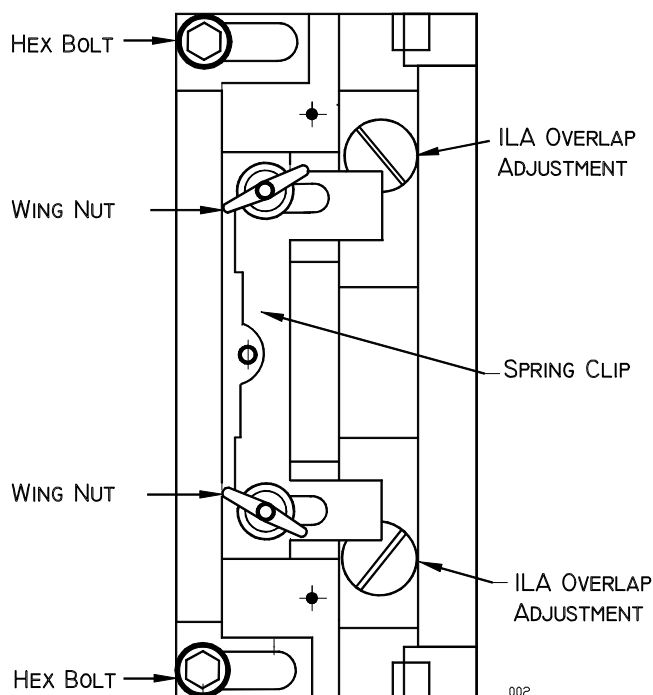

Figure 4-15. **ILA**® Assembly top view. The overlap screws shown are visible after the **ILA**® assembly is removed.
4. Loosen the two wingnuts at the top of the appropriate **ILA**® assembly (Figure 4-15).
5. Slide the spring clip at the top of the **ILA**® assembly backward (Figure 4-15). This will free the **ILA**® assembly.
6. Remove the 2 long hex bolts at the front of the Relay Lens (*shown in Figure 4-15*).